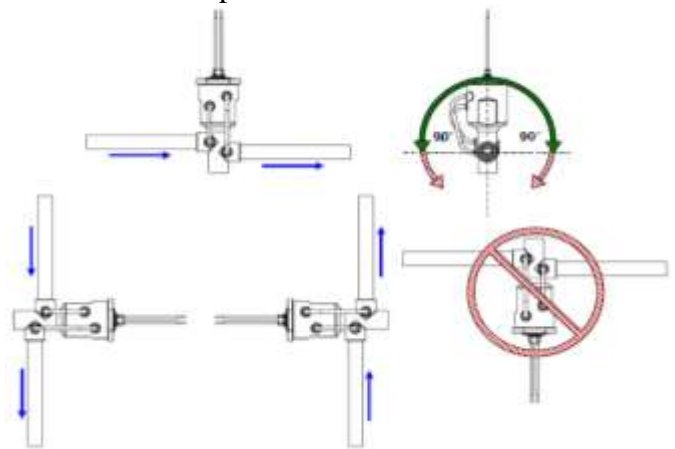

Figure 11 - MSEV installation orientation
3. Before continuing, clean the copper connections of the MSEV. The MSEV comes with a standard 3/8" outside diameter (OD) copper tubes that are 3" in length on both sides of the main body.
4. Position the MSEV as displayed in Figure 11 and ensure the arrow mark aligns with the direction of fluid flow. The blue arrows show which way fluid is supposed to flow through the valve. Also ensure that the MSEV is installed in an upwards orientation or at any angle less than 90° in either direction (represented by the curved green arrows).